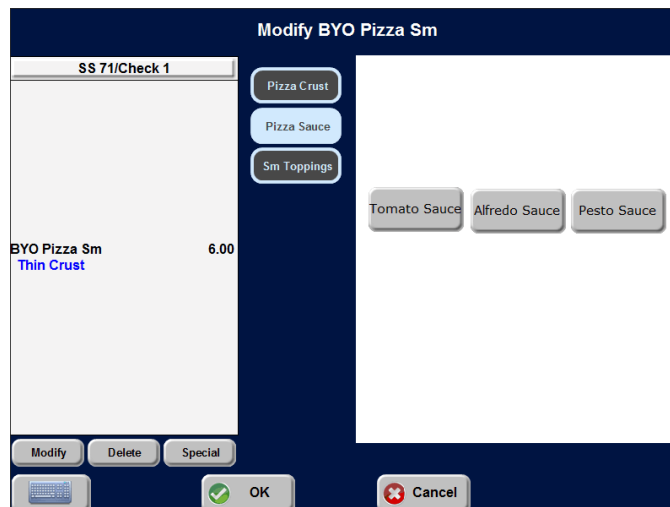

Figure 48 Sauce Modifier Screen for Advanced Pizza
5. Touch a **crust**. The Modifier screen for the choice of sauce appears with a custom modifier panel (Figure 48).